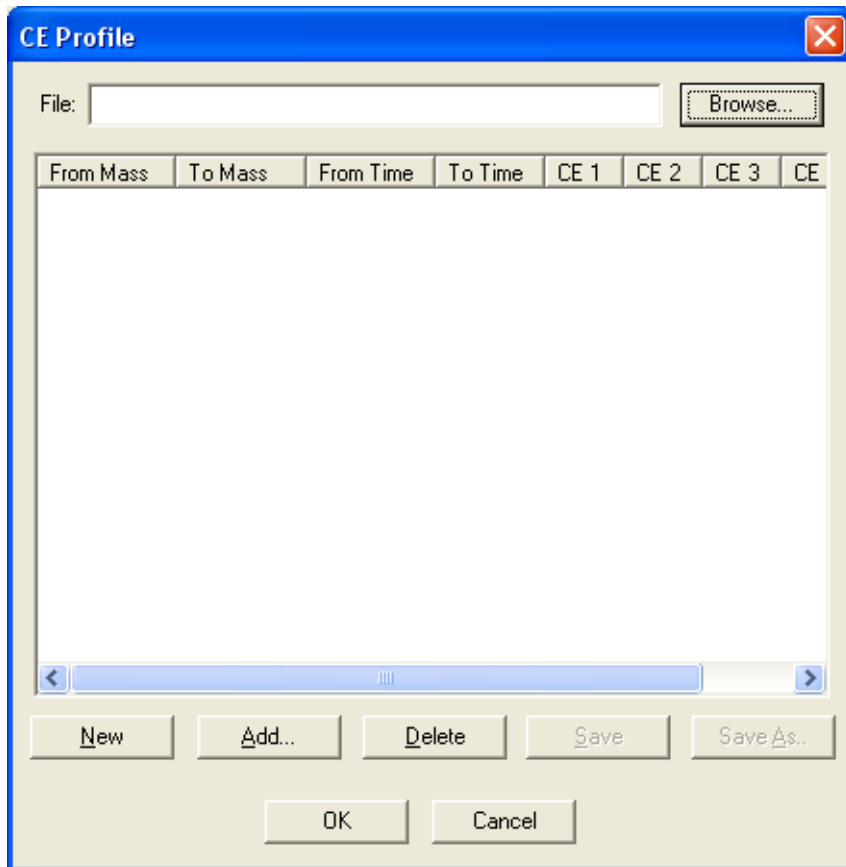

Figure 5-24 CE Profile Dialog Box
2. Click Modify to open the CE Profile dialog box (Figure 5-24).